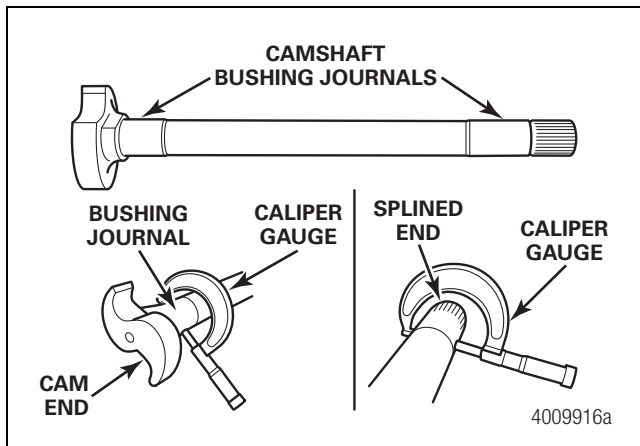

Figure 4.12
- Use a 1-2-inch machinist's caliper to measure the bushing journals on each camshaft. Take the measurement in multiple positions on the bushing journals as the camshaft and bushing may wear unevenly. Camshaft journal diameter must be no less than 1.490-inches (37.846 mm). Figure 4.12.